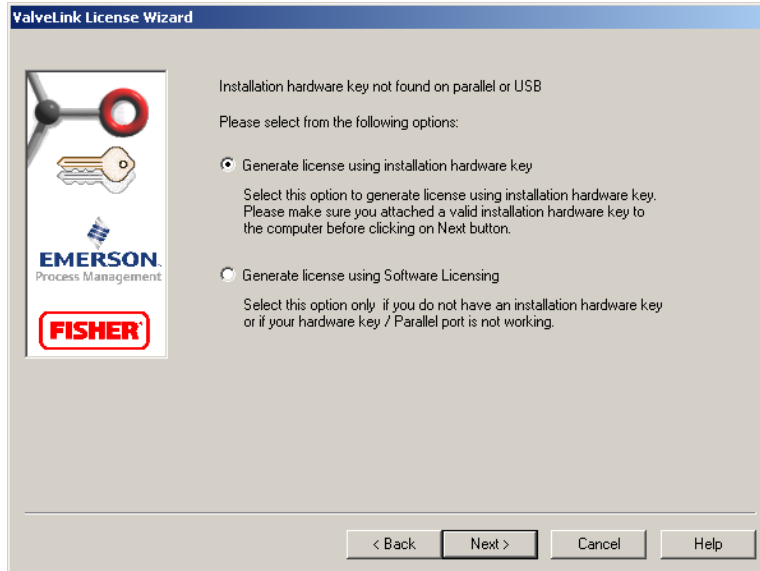

Figure 7-1. Installation USB Hardware Key or Software Licensing
ValveLink License Wizard can be used to enable the license of installed ValveLink software. A valid installation USB hardware key or a software license key is required to enable the license of installed ValveLink software. See figure 7-1.
- Step 3:** Select the Generate license using installation hardware key option button (see figure 7-1), and click Next. Follow the License Wizard steps as directed.
- Step 3:** Select the Generate License using the Software Licensing option button (see figure 7-1). Follow the License Wizard steps as directed.